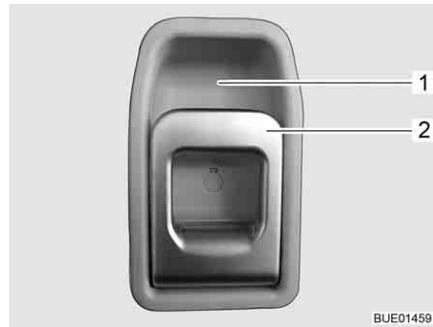

Fig. 34 Door lock of conversion door, inside
- Opening:* ■ Pull on the handle (Fig. 34,2). The door lock is unlatched.
- Locking:* ■ Press the upper part of the handle (Fig. 34,2) in the direction of the recessed handle (Fig. 34,1).